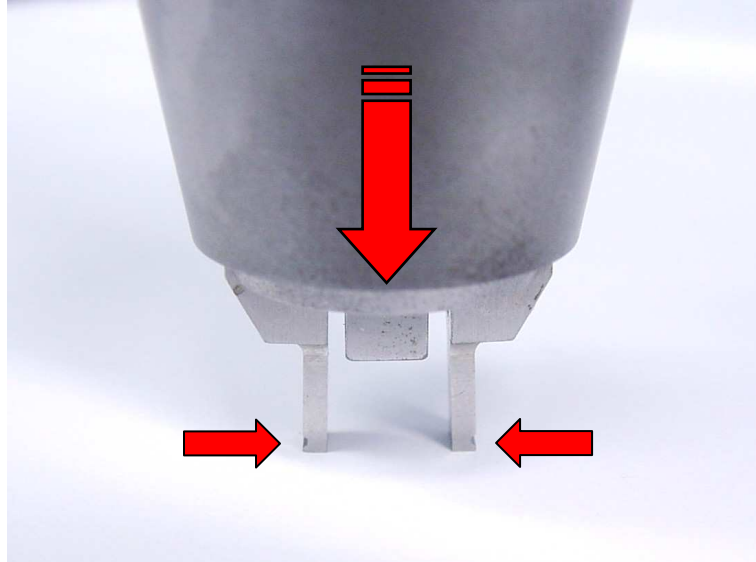

Figure 3
**2.** In order to uptake the clip the locking fingers need to be closed. If they are open they may be closed by pressing the fingers down (see figure 3).